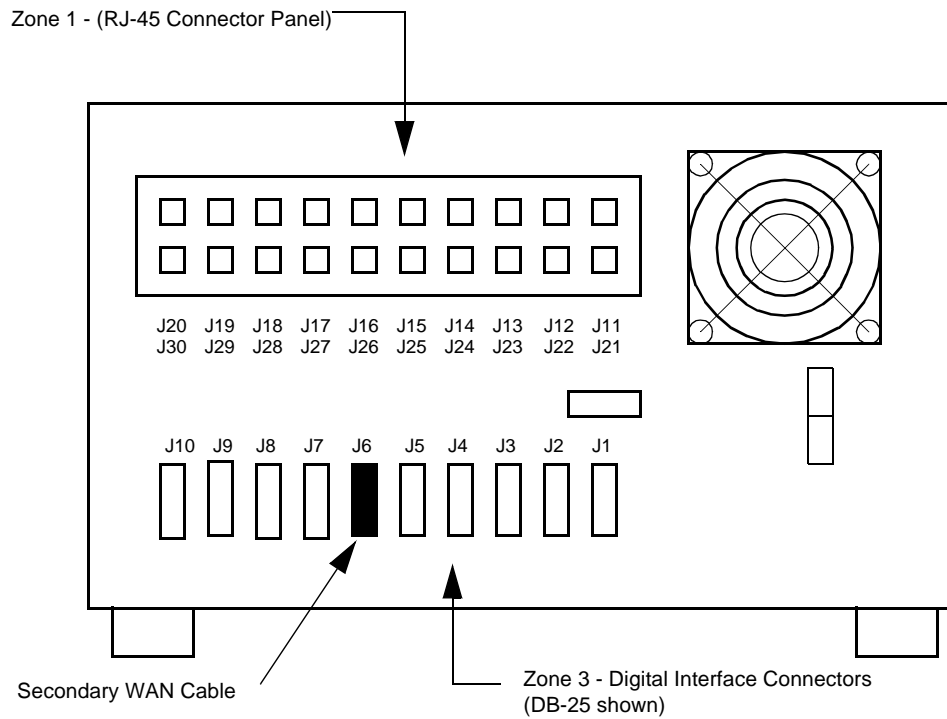

Figure 4-4 Connecting a Cable to an OPP Token Ring with OPP Card in Slots 6 and 7
1. Using the cable that was shipped with your OPP, connect the cable to the appropriate DB-25 connector in Zone 3 of the OCM*TMS Shelf or Enclosure. *Figure 4-4* shows where to connect a cable.